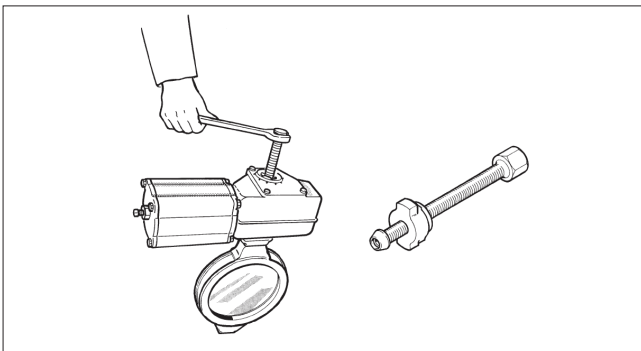

Fig. 19 Actuator removal, B1 series
- Detach the actuator using a suitable extractor. The correct tool can be ordered from the manufacturer (see Fig. 19).